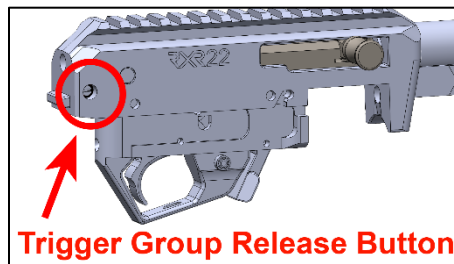

Figure 24
- Using a small punch, depress the trigger group release button on the right side at the rear of the receiver – Figure 24. This will allow the rear of the trigger group to swing down from the receiver.